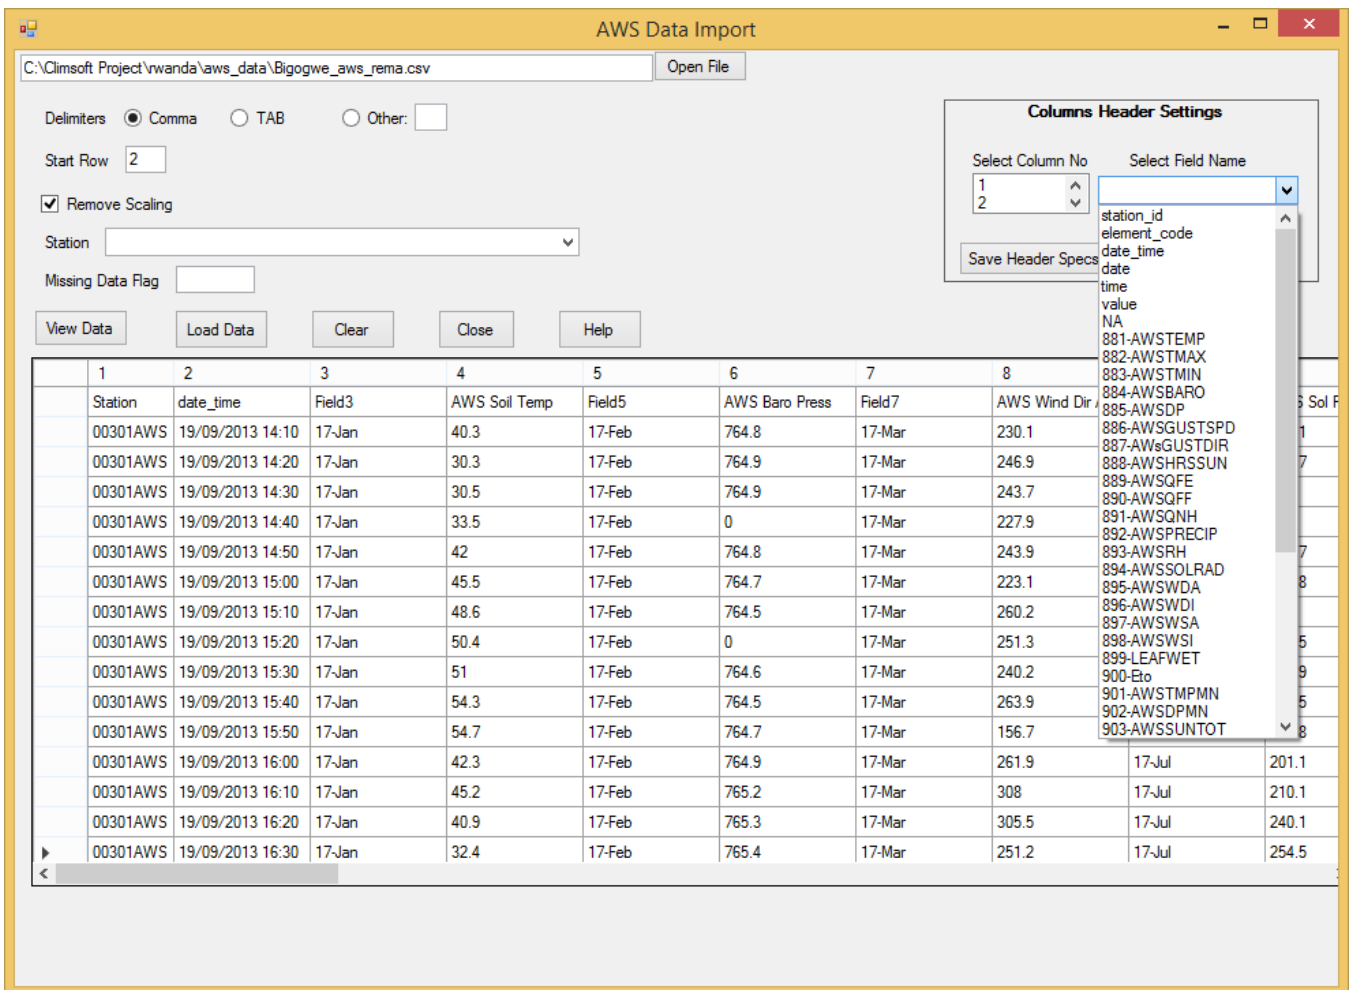

Figure 55: AWS Data Import
- (iii) Select “**AWS**” to open import dialog shown as shown in *Figure 55*,
- (v) After the file has been located, click “Open” in the file open dialog. The filename with its full path will then be shown in the Import File text box. See *Figure 55*,